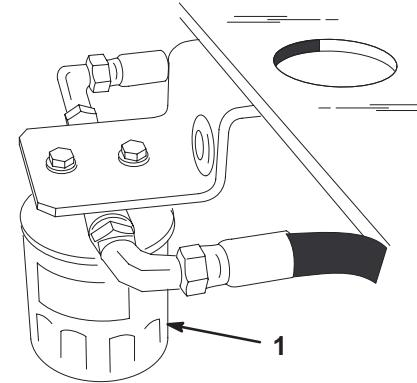

Figure 40
- Place drain pan under filter, remove the old filter and wipe the filter adapter gasket surface clean (Fig. 40).